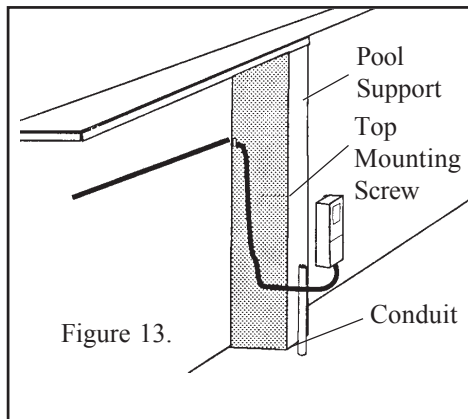
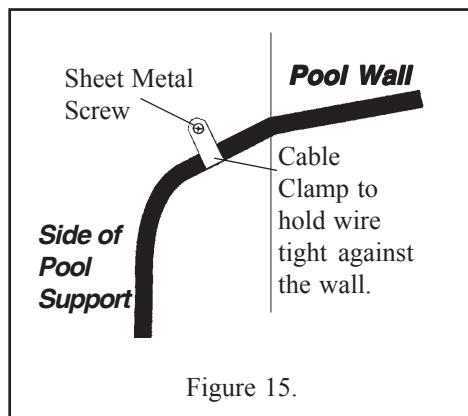

Figure 13.
Figure 15.
12. Mount the transformer box on a pool support approximately 18 inches above the ground, in a position accessible to electrical connection; see Figure 13. To mount the transformer junction box, insert one of the screws provided, to a pool support.
15. Using the cable clamp provided, attach the cable clamp to the cord and mount the cable clamp to the pool support, see Figure 15, so that the cord lies flush against the pool wall. Do not attach directly to the pool wall. This will keep the cord flush to the wall; see Figure 13.